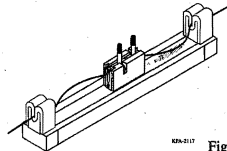

Figure 5
**3.8** Push the first fiber against the second until there are equal bends in the fibers of approximately  $3/8$  to  $1/2$  inch (10-13 mm) (Figure 5).